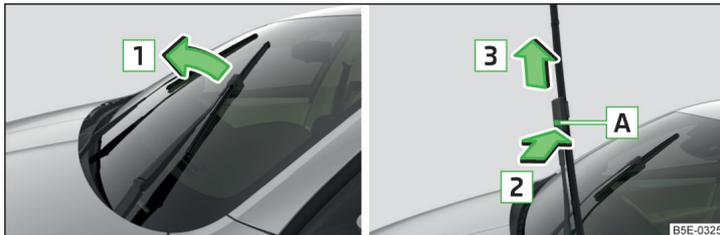

Fig. 340 Replace windscreen wiper blade
- › Lift the wiper arm from the window in the direction of arrow **1** » Fig. 340.